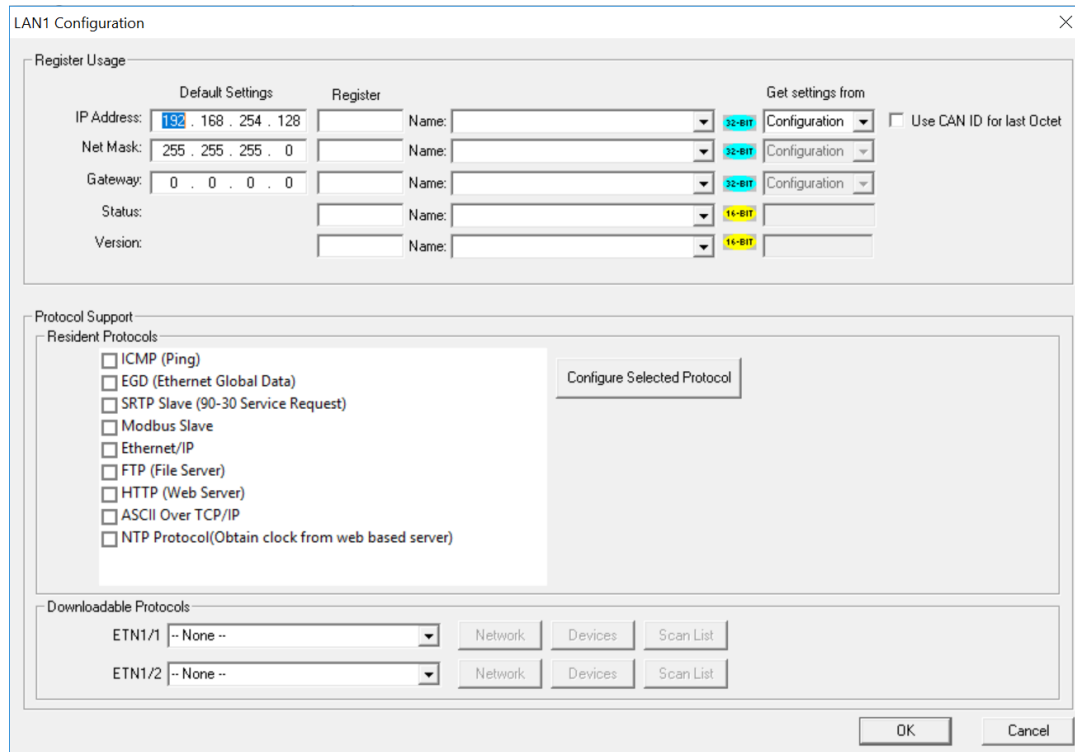

Figure 12.2 – Ethernet Module Configuration
3. Click the **Config** button to the right of LAN1 for LAN 1 or LAN2 for LAN2, revealing the Ethernet Module Configuration dialog as shown in Figure 12.2.